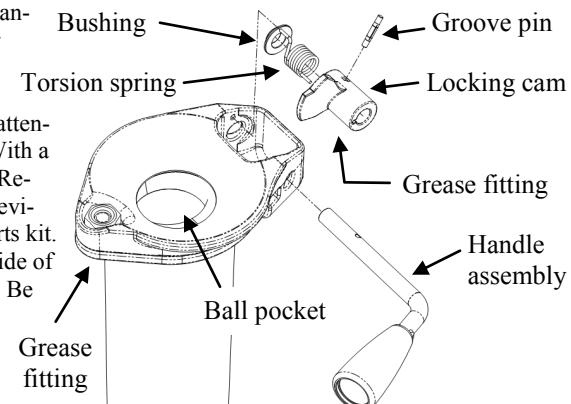

Figure 1
1. Loosen set bolts, remove load bearing pin and lower coupler assembly from trailer. With ball pocket facing up (Fig. 1), take visual note of the parts and their orientation, paying particular attention to the function of the handle and locking cam. Rotate handle exposing the groove pin. With a punch, remove the groove pin and slide handle from the coupler. Remove and discard all old parts. DO NOT reassemble using any previously existing parts—only use components supplied within the parts kit.